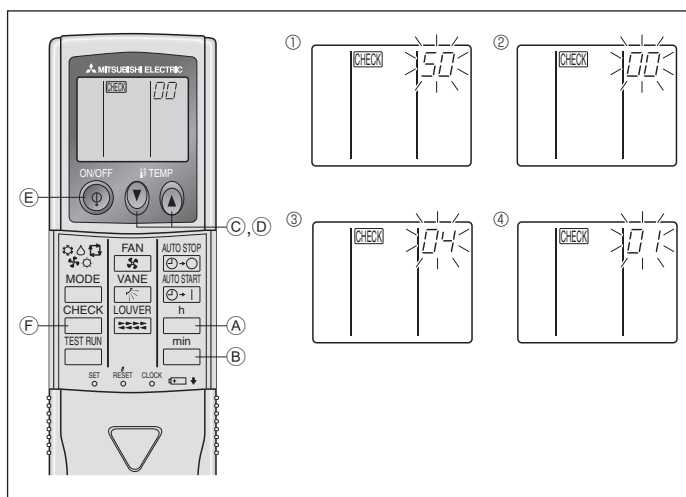

Fig. 6-10
- ⑧ Press the MODE button and mode and the setting number (I) and (II) will change to be on constantly and the contents of the setting can be confirmed.
- ⑨ Press the FILTER and TEST RUN buttons simultaneously for at least two seconds. The function selection screen will disappear momentarily and the air conditioner OFF display will appear.
2) For IR wireless remote controller (Fig. 6-10)